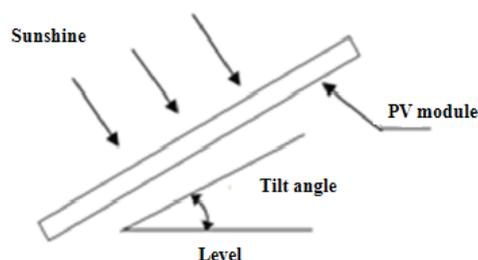

Figure 2 Module tilt angle
**5.3.1** The tilt angle of the Modules is measured between the surface of the modules and a horizontal ground surface, the modules generates maximum power output when it faces the sun directly, as shown in figure 2.